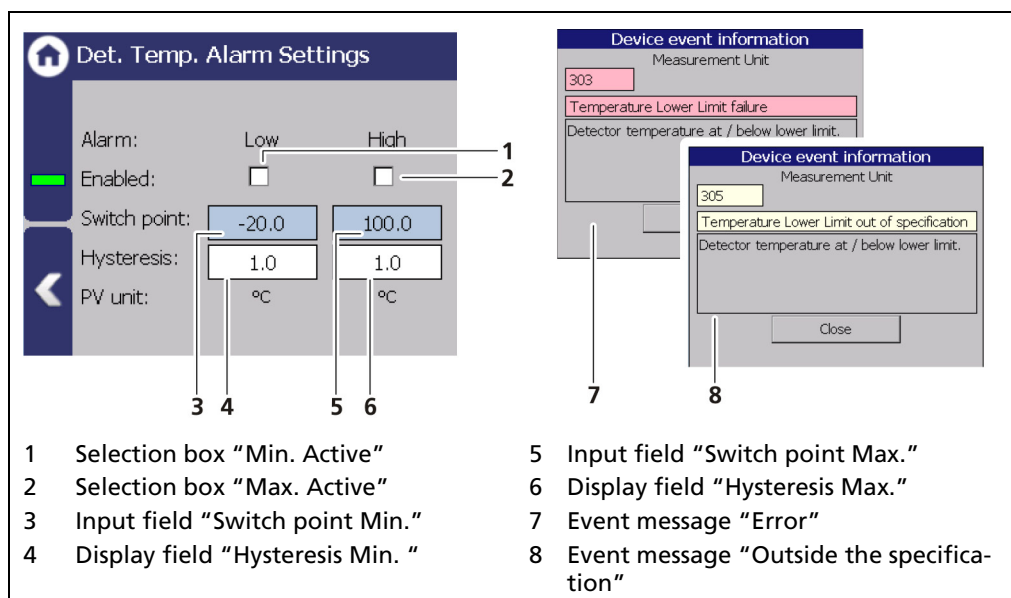

Fig. 125 Det.-Temp Alarm Settings
1. Activate the check box (Fig. 125, item 1).
1. Click on the input field (Fig. 125, item 2) to enter a switching point.
1. Activate the check box (Fig. 125, item 3).
2. Click on the input field (Fig. 125, item 4) to enter a switching point.